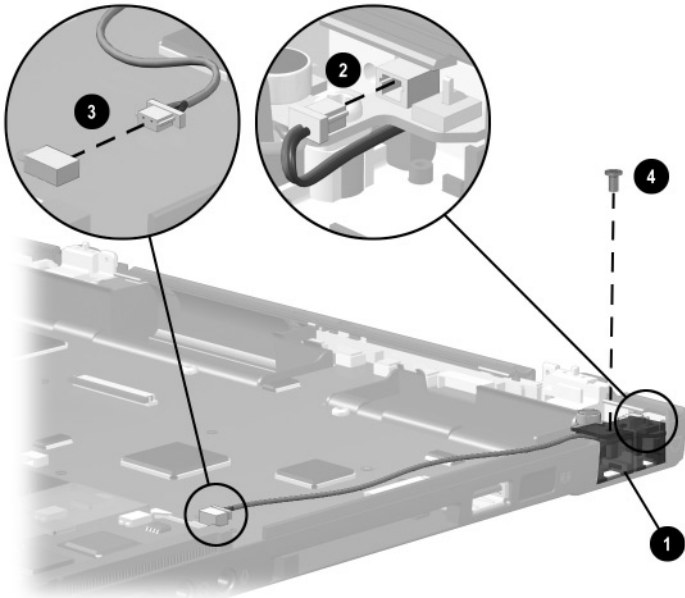

Figure 5-28. Removing the Modem Cable on Evo Notebook N400c Models
12. Remove the RJ45/RJ11 connector module ❶ from the base enclosure (Figure 5-28).
13. Disconnect the microphone cable ❷ from the display lid switch board.
14. Disconnect the microphone cable ❸ from the system board.
15. Remove the PM2.0 × 4.0 screw ❹ that secures the display lid switch board to the base enclosure.